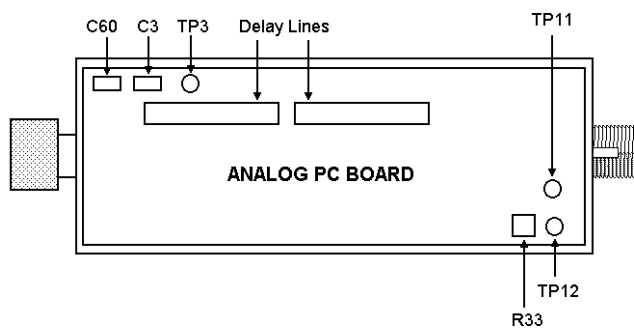

Figure 5-1: Principal Test Component Locations
1. This test requires that no RF is present, and that the instrument is in the CW mode. Be sure that the system is allowed to warm up at least 30 minutes. The measurement should be made quickly to prevent cooling of the circuit. Refer to Figure 5-1.